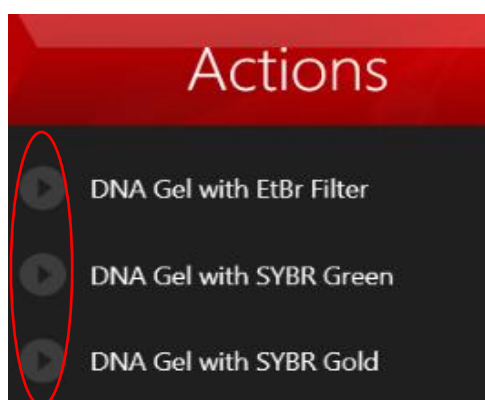

Figure 1. Action Execute Button
- 1) To execute a preset action, tap the play icon next to each action description as seen in **Figure 1**.